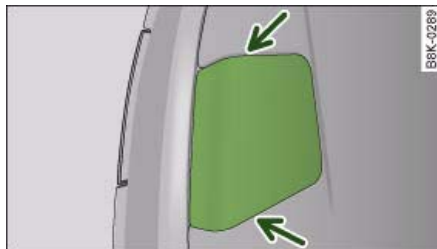

Fig. 257 Boot lid: Opening the cover in the boot lid
- Using the flat-blade side of the reversible screwdriver insert, carefully detach the cover cap ⇒ *fig. 257* -arrows-.